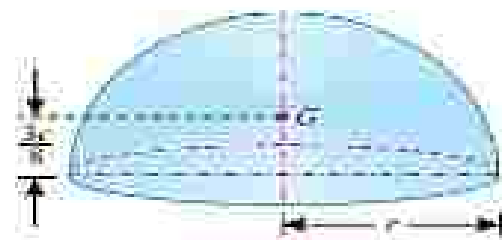

Fig. 6.6. Hemisphere
9. The centroid of a hemisphere is at a distance of $3r/8$ from its base, measured along the vertical radius as shown in Fig. 6.6.